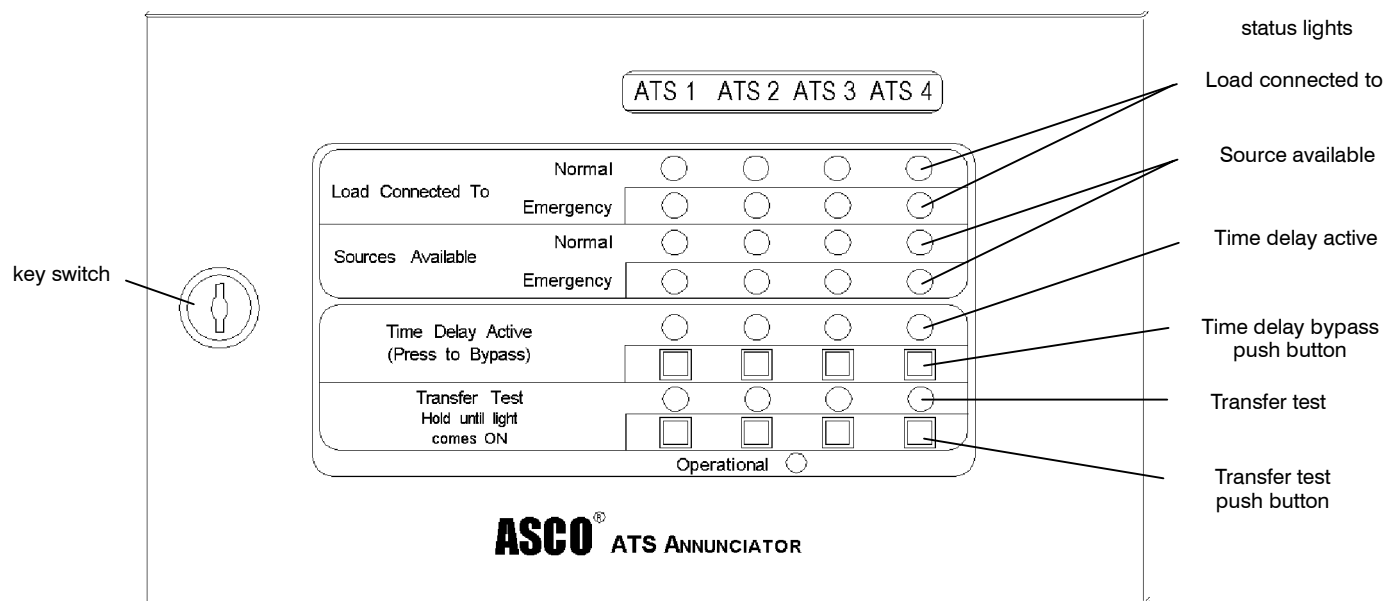

Figure 7. ATS Annunciator (Master)
1. Insert the switch key and turn it clockwise to the *Unlock* position as shown in Figure 7.